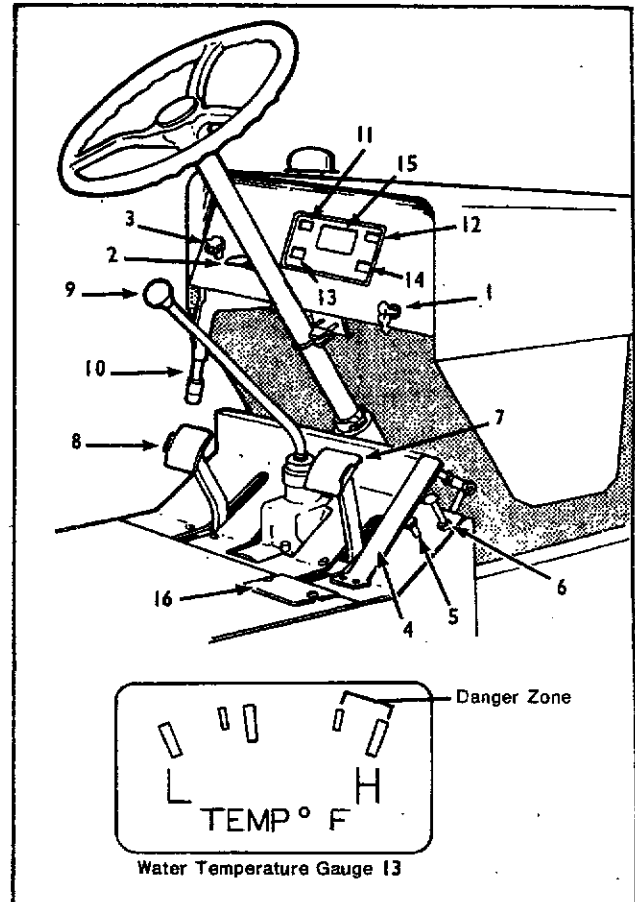

Figure 1
See Figure 1 for Location of the Following Controls:
13. WATER TEMPERATURE GAUGE (See Detail, Fig. 1)